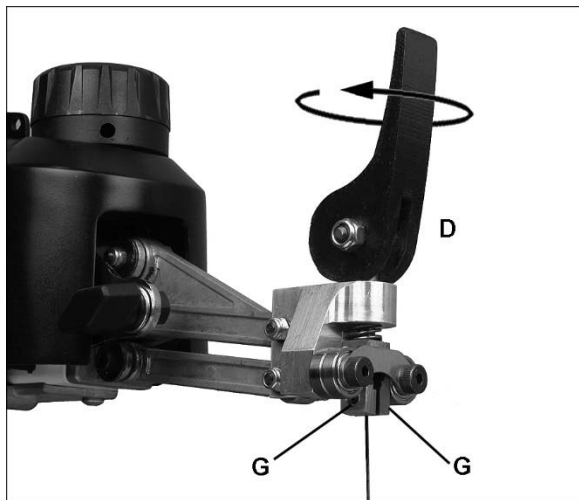

Figure 17: tension adjustment
If blade refuses to be clamped tightly according to the above steps, one or both of the following adjustments may be needed (Figure 17):
- If side of blade does not lie flush against square, first check that the set screws (see G, Figure 17) protrude evenly into the clamping area. Adjust if needed.